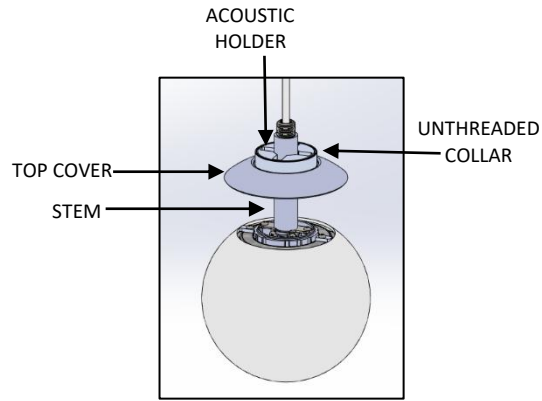

FIG. 24 – ACOUSTIC HOLDER
15. Make sure that ACRYLIC SHADE is properly seated onto the INSERT COLLAR and then slide the TOP COVER UNTHREADED COLLAR and the bottom ACOUSTIC HOLDER back down as shown below in FIG. 24.